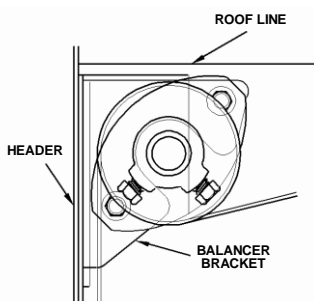

FIGURE 7
- c.) Wind cable into cable drum following grooves. It is important that the end of the cable is inserted fully into the notch. If this is not done properly, it could interfere with drum movement. Cable should run between door and header, and then straight up onto cable drum. **(SEE FIGURE 7)**